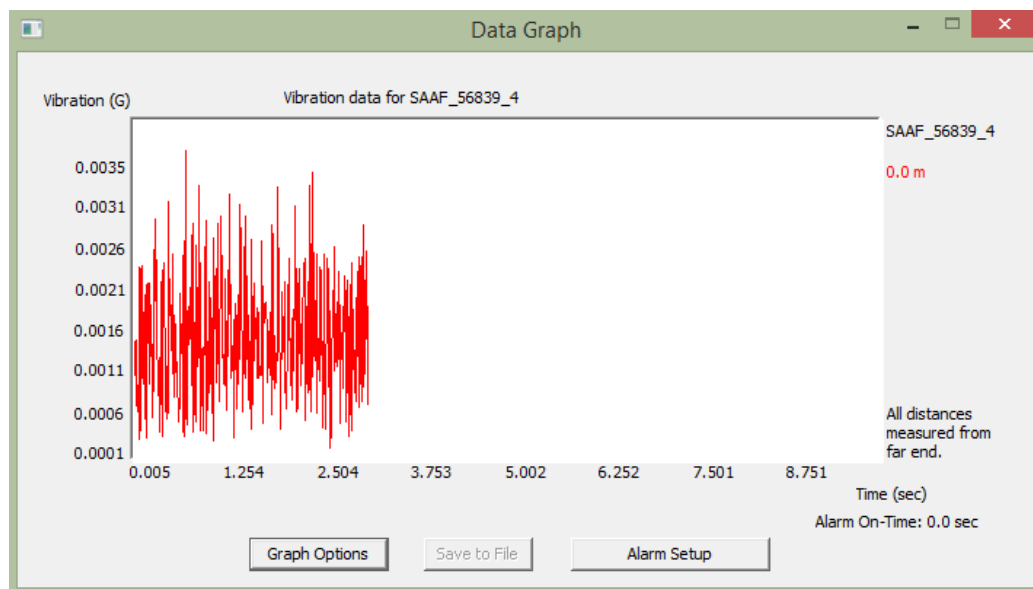

Figure 6.98: 'Vibration vs. Time Graph' window.
6. A 'Vibration vs. Time' graph will appear, see **Figure 6.98**.
- This option saves an exact replica of the 'Vibration Graph' window, such as the one shown in **Figure 6.98**.